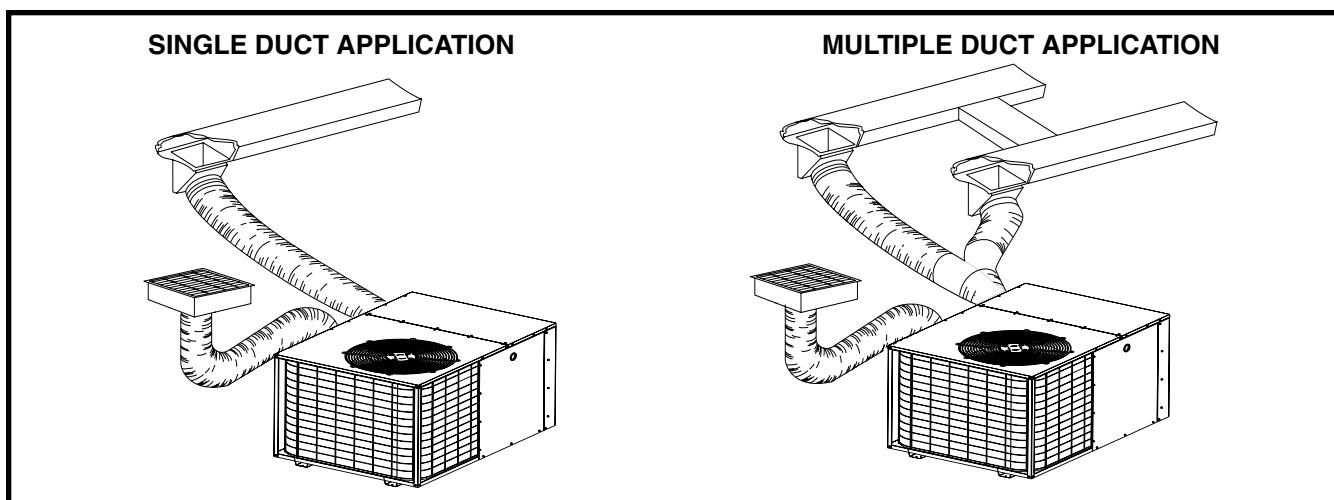

Figure 2. Single & Multiple Duct Applications
- The supply duct system, including the number and type of registers, will have much more effect on the performance of the system than any other factor. The duct must be sufficiently large to conduct an adequate amount of air to each register. See Figure 2 \(page 5\).